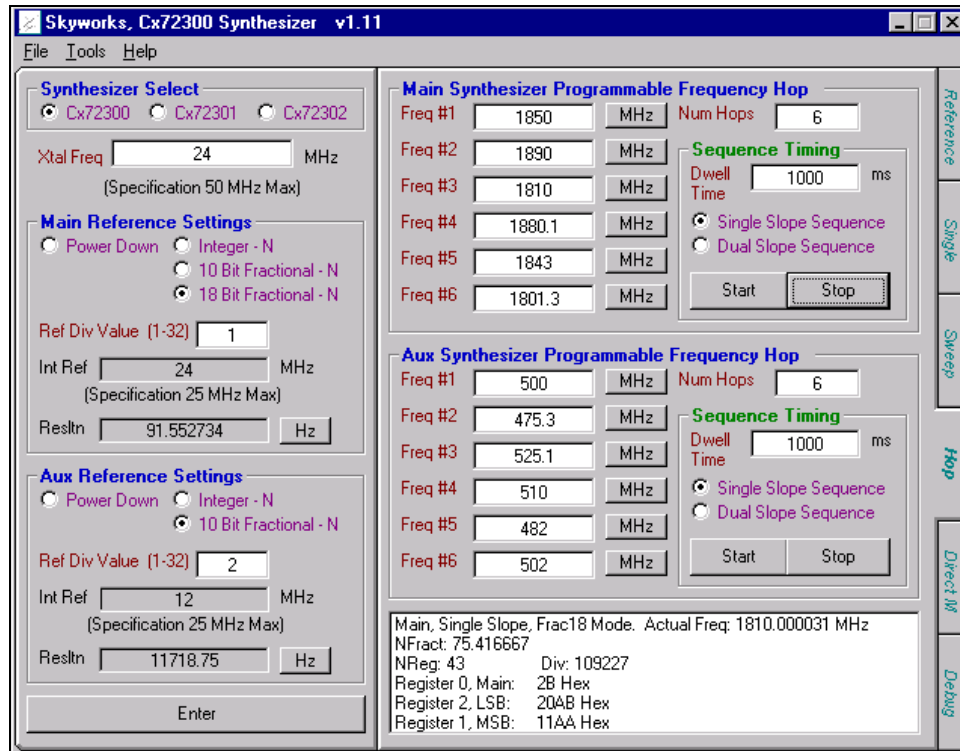

Figure 4. Software Interface Window: Hop Tab
1. Click the **Hop** tab of the software interface window (see Figure 4).